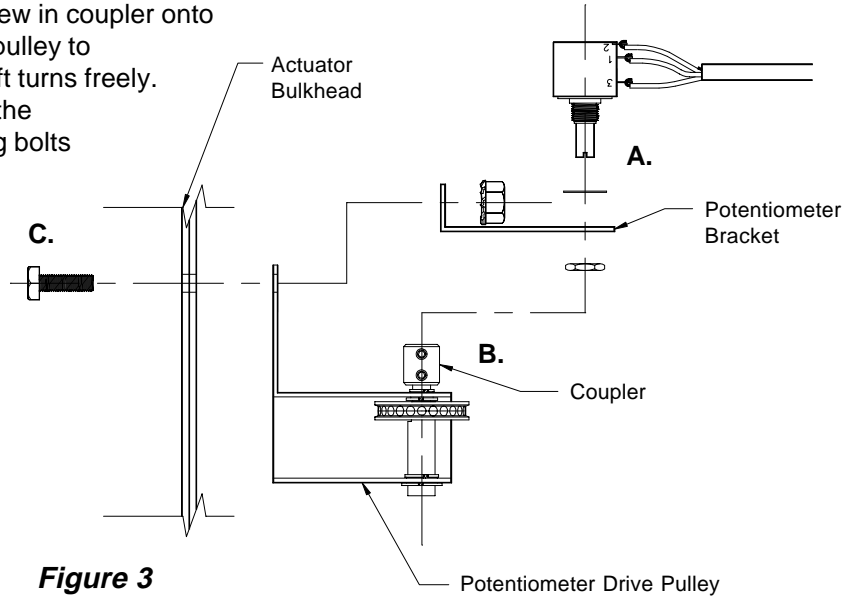

Figure 3
- C) Attach this complete assembly to the actuator using the pair of mounting bolts and nuts removed in Step 4, from the previous potentiometer bracket. **See Figure 3.**